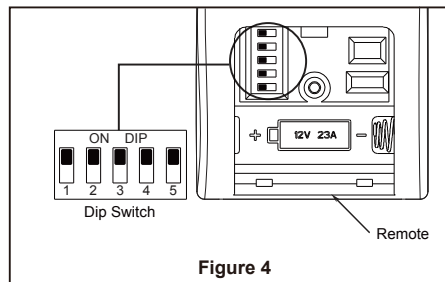

Figure 4
- ☐ 4. To set the remote code same positions as the receiver with a small screwdriver or ball point pen (neither included), slide dip switches firmly up or down. (Figure 4)